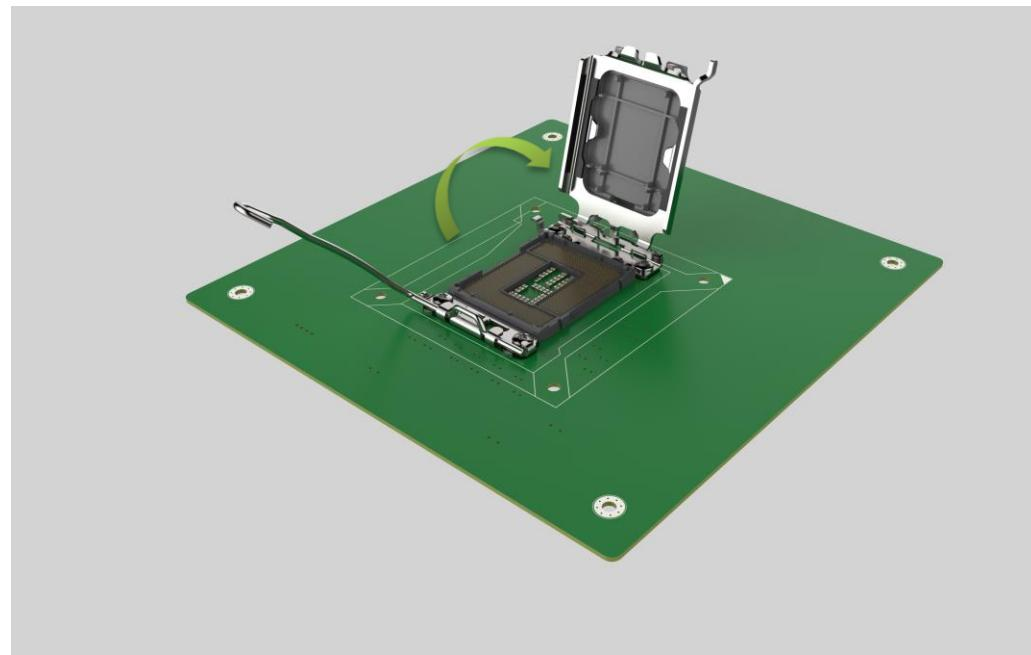

Figure 4-4: Remove Protective Cover
Step 2: Open the socket and remove the protective cover. The black protective cover can be removed by pulling up on the tab labeled "Remove". See **Figure 4-4.**